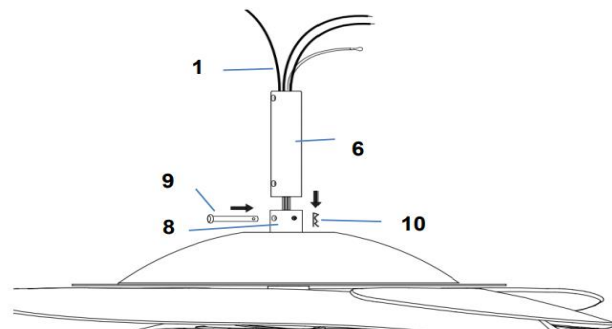

Fig. 6.3
3. Carefully feed the fan wires (1) up through the down rod (6). (Fig. 6.3)
4. Assemble the down rod (6) into the down rod coupling housing (8), by inserting and line up the down rod coupling housing holes with the down rod holes and insert the hitch pin (9) and secure with the lock clip (10). (Fig. 6.3)